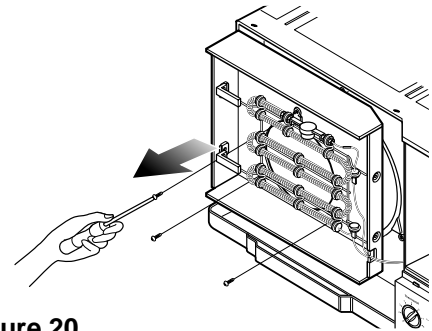

Figure 20
4. Remove the 2 terminals carefully (See Fig. 20).
5. Remove the 3 screws which fasten the Heater Cover. (See Fig. 20)
6. Remove the Heater Cover. (See Fig. 20)